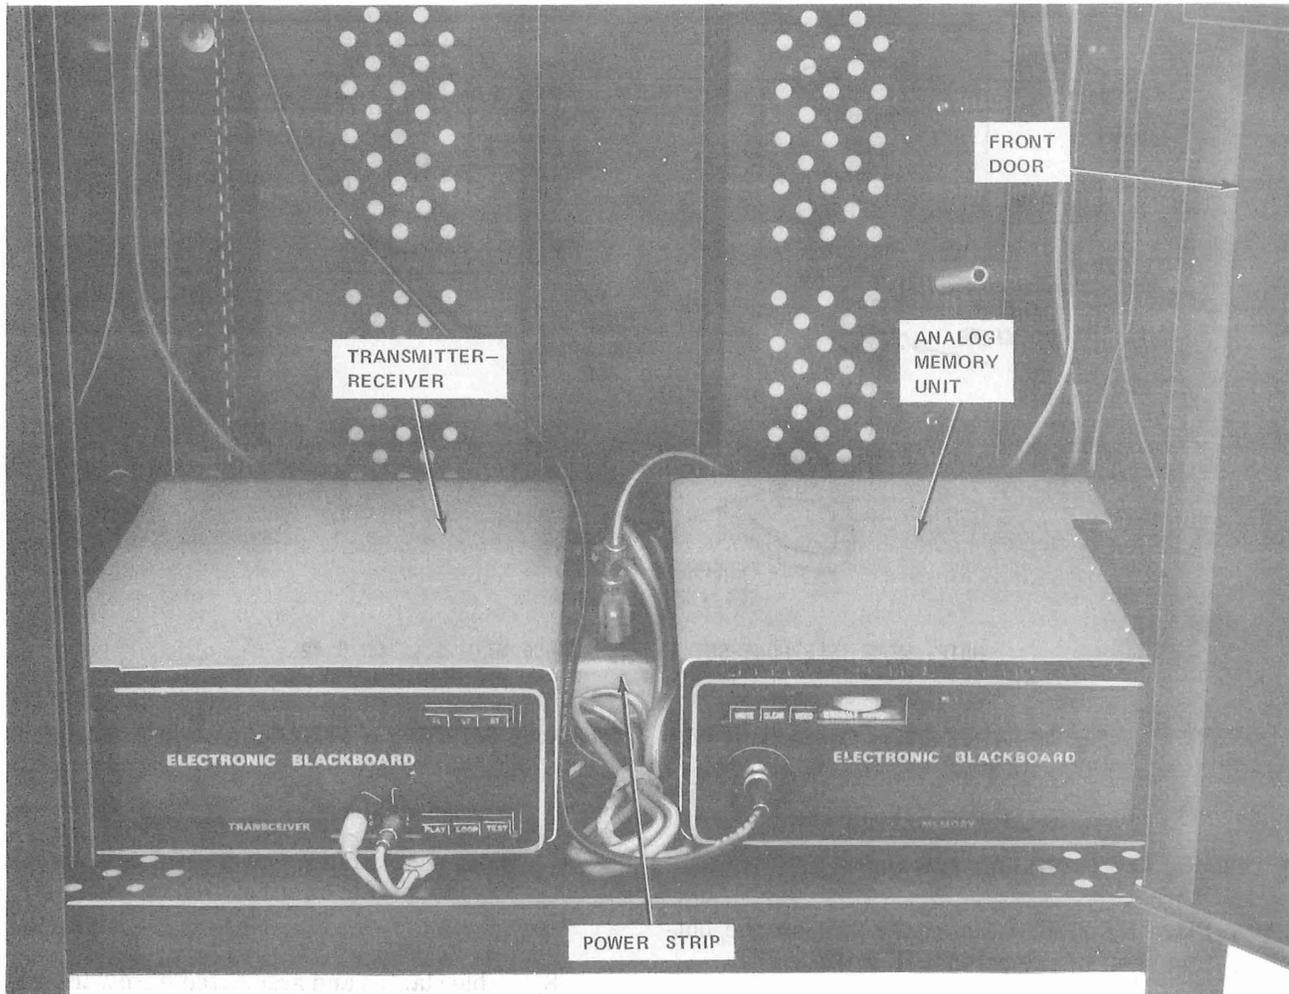

Fig. 41—Bottom Front View of Cabinet With KS-21889-L1 Memory Unit
5.46 Place the memory unit in the right bottom portion of the cabinet (Fig. 41). Connect ac power cord into power strip.